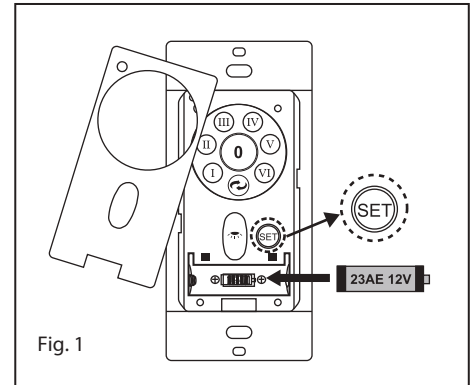

Fig. 1
- 1 Insert the receiver into the ceiling mounting bracket with the flat side of the receiver facing the ceiling. (Fig. 1) For best performance, make sure the Black Antenna, on the end of the receiver, remains extended and not tangled with any of the electrical wires.
- 1 Connect the 2-wire plug from the fan to the 2-wire plug of the LED Assembly. Make sure the connector snaps together. Carefully tuck the wire connector and wires inside the mounting hub of the motor assembly. Fig.1
- 2 Aligning all 4 holes in LED Assembly with 3 holes in the Mounting Hub make sure all screws are tight (Fig.1)
- 1 Remove the existing wall plate and the old switch from the wall outlet box. (Fig. 1)
Follow the below steps to use the set button. (Fig. 1)